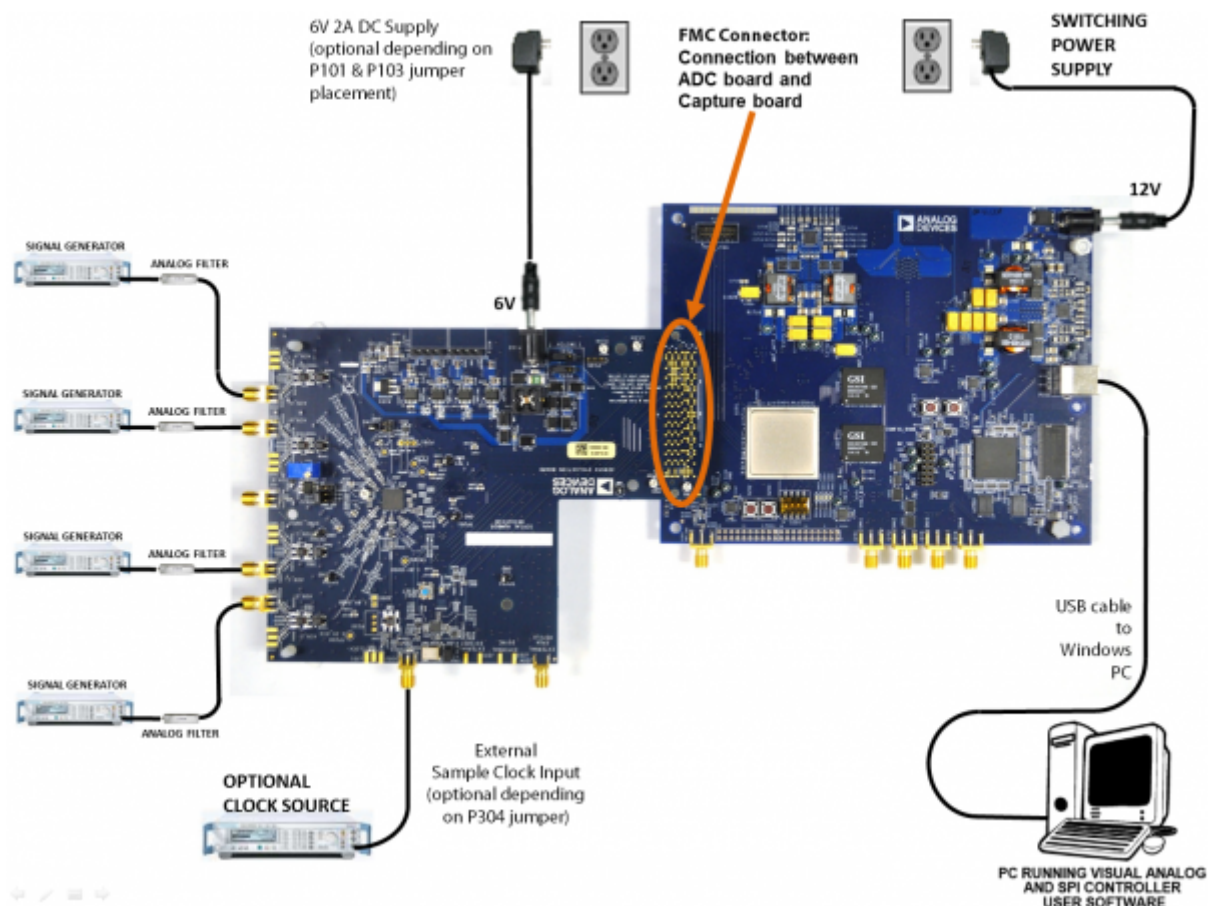

Figure 1. Evaluation Board Connection—AD9656EBZ (on Left) and HSC-ADC-EVALEZ (on Right)
1. Connect the evaluation board to the data capture board, as shown in Figure 1.
The evaluation board provides the support circuitry required to operate the AD9656 in its various modes and configurations. Figure 1 shows the typical bench characterization setup used to evaluate AC performance. It is critical that the signal sources used for the analog input and clock have very low phase noise (ideally ~ 100 fs rms jitter) to realize the optimum performance of the signal chain. Proper filtering of the analog input signal to remove harmonics and lower the integrated or broadband noise at the input is necessary to achieve the specified noise performance.